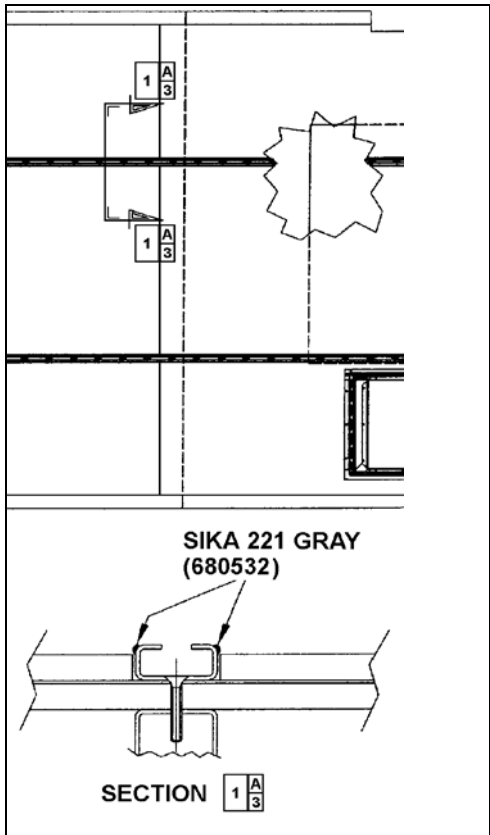

FIGURE 26: APPLICATION OF SIKA 221 GRAY
8. Apply Sikaflex 221 gray sealant (680532) alongside passenger seat fixing tracks (refer to Figure 26).